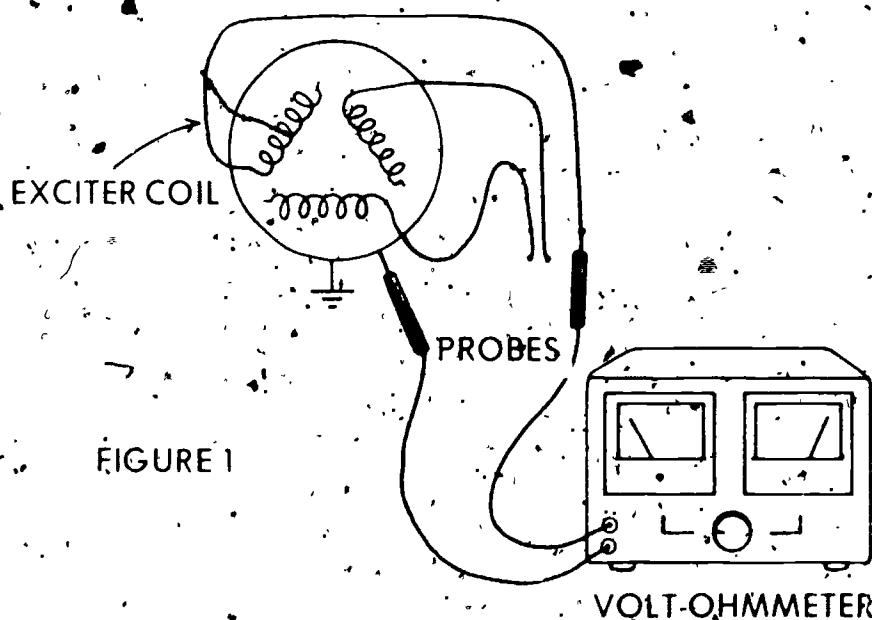

FIGURE 1
- D. Connect the ohmmeter across the lead of the exciter coil and ground (Figure 1)